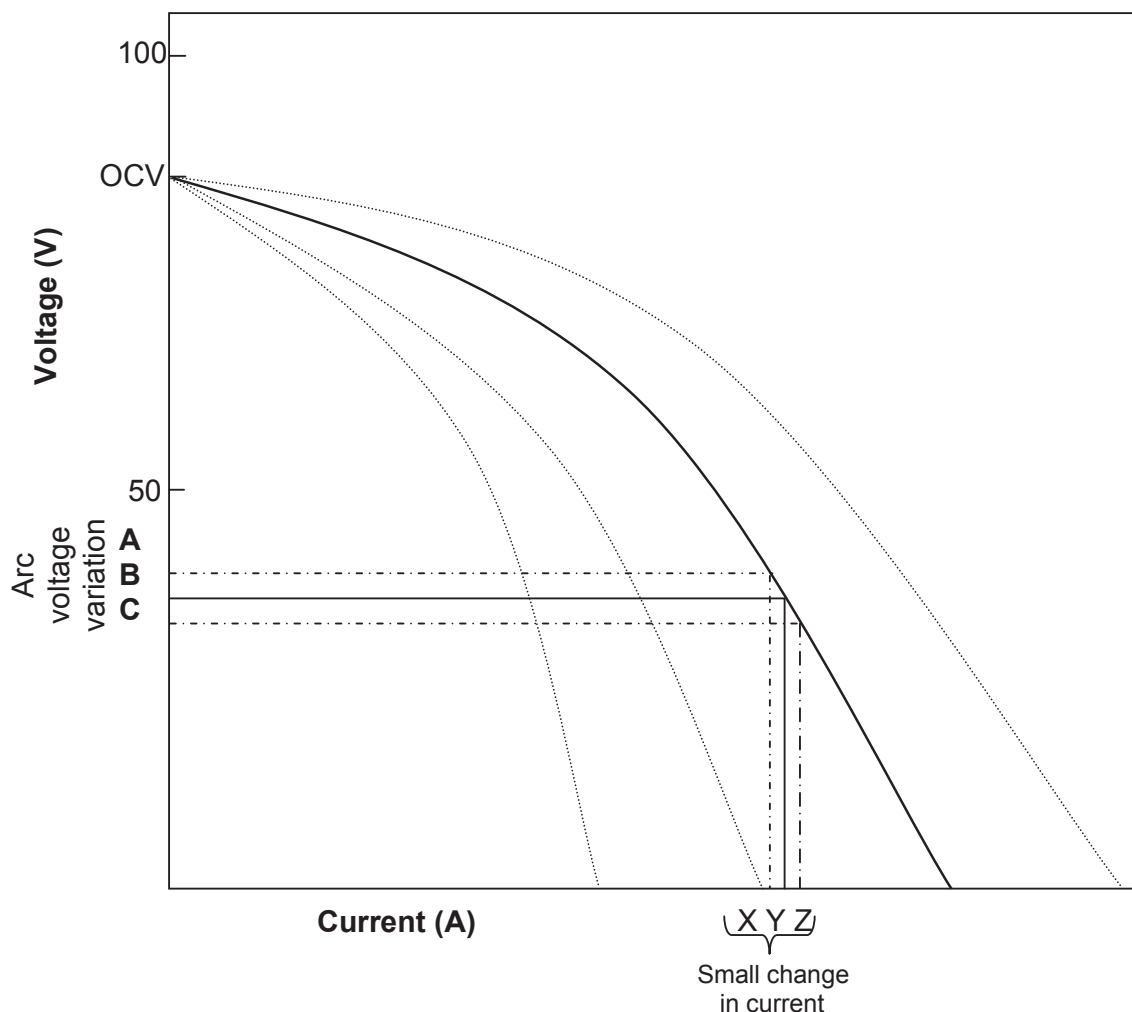

Figure 1 Typical Volt-Amp curves for a constant current power source.
The Volt-Amp relationship for a constant current power source is shown in Figure 1. This shows the 'no current' position (the OCV) and from this point there are arc voltage/current curves that depend for the various current settings on the power source.
For the operating principle of this type of power source see Figure 1.
The welder tries to hold a fairly constant arc length (B in Figure 1) for the current (Y) that has been set. However, he cannot keep the arc length constant and it will vary over a small working range (A to C in Figure 1) due to normal hand movement during welding.